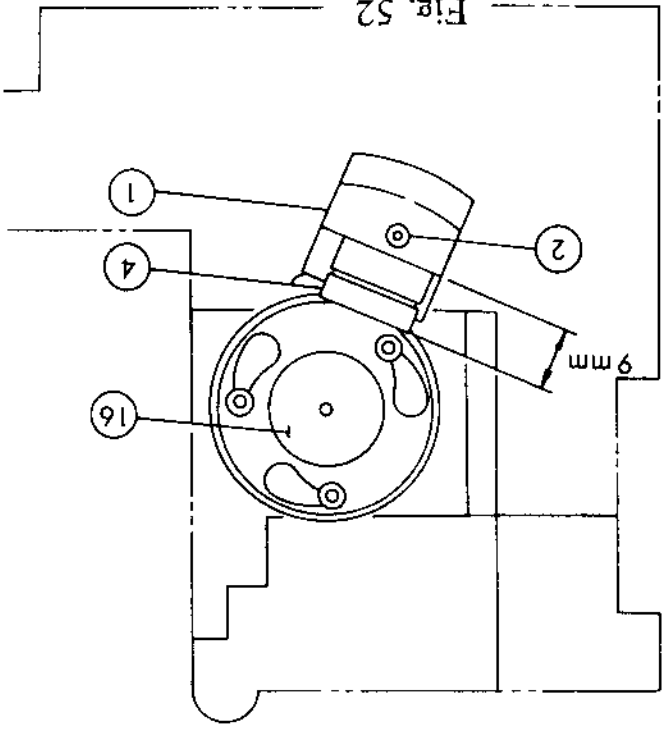

Fig. 52
1. Make sure that the lens surface of ④ is not stained with dust, etc. (Replace if the internal lens of ④ is blurred or stained.)
2. Make sure that ②③ activates without fail.
3. Extend ④ approx. 9 mm from ①, and carry out temporary tightening. (Refer to Fig. 52)
4. Set the sound focusing film (P035), and travel the film at the VR position where output waveform shows no distortion. Then carry out fine adjustment by moving ④ up-down and left-right before fixing when the reproduction output shows the maximum level. (Max. output: Over 14 V)